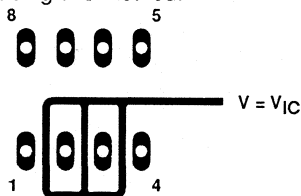
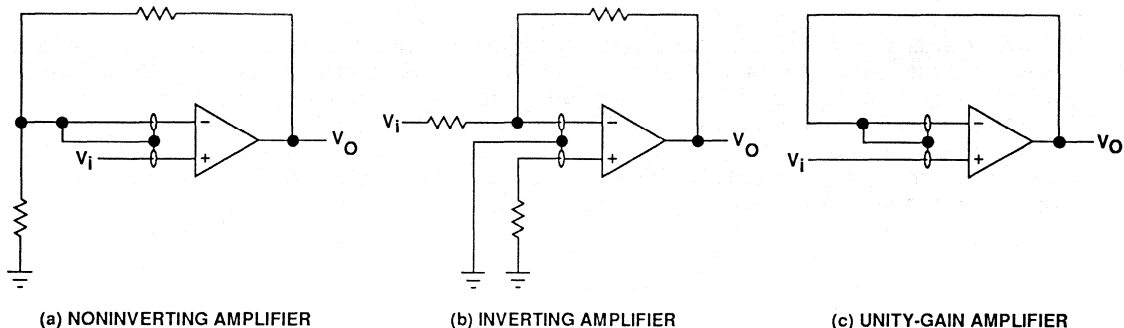

Figure 95. Isolation Metal Around Device Inputs
Figure 101. Guard Ring Schemes
1. Isolate the device from other potential leakage sources. Use a grounded shield around and between the device inputs (see Figure 95). Leakages that would otherwise flow to the inputs will be shunted away.
Because of the extremely high input impedance and resulting low bias current requirements, the TLV2341 is well suited for low-level signal processing; however, leakage currents on printed circuit boards and sockets can easily exceed bias-current requirements and cause a degradation in device performance. It is good practice to include guard rings around inputs (similar to those of Figure 95 in the Parameter Measurement Information section). These guards should be driven from a low-impedance source at the same voltage level as the common-mode input (see Figure 101).